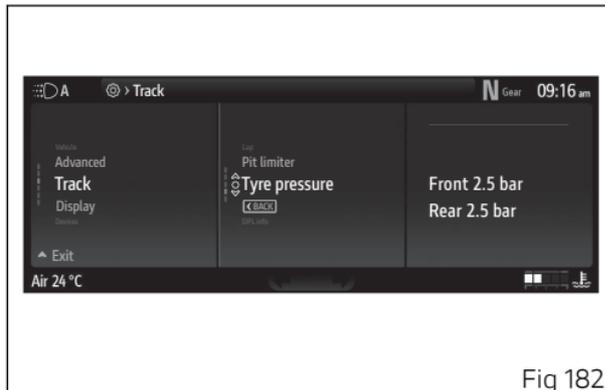

Fig 182
- Select the “Tyre pressure” item (Fig 182) and press ○ .